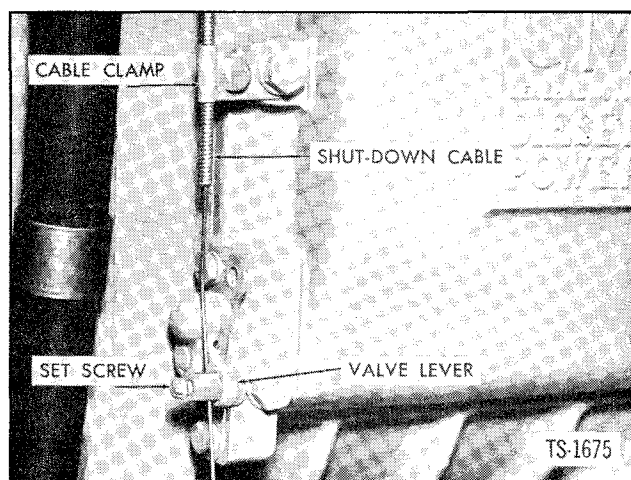

Fig. 30. Adjust Emergency Shut-Off Control (G.M. Diesel)
4. Adjust cable length if necessary at clamp or at lever. See Figure 30.